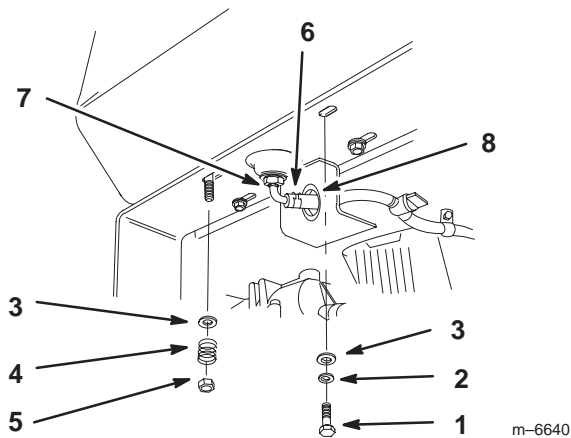

Figure 4
1. Align the fuel tank with the top of the rear frame (Fig. 4).
2. Push the fuel line through the grommet and hole in the hydraulic oil filter bracket (Fig. 4).
4. Secure the right side of the fuel tank to the rear frame (Fig. 4) with 2 bolts (5/16 x 7/8 inch), lock washers (5/16 inch) and washers (5/16 inch) (Fig. 4).
5. Secure the left side of the fuel tank to the rear frame (Fig. 4) with washers (5/16 inch), springs and locknuts (5/16 inch) (Fig. 4).